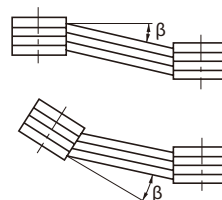

Figure 5-3
- The parallelism, eccentricity  $\beta$  of the two pulleys should be within  $20^\circ$ . (See Figure 5-3)